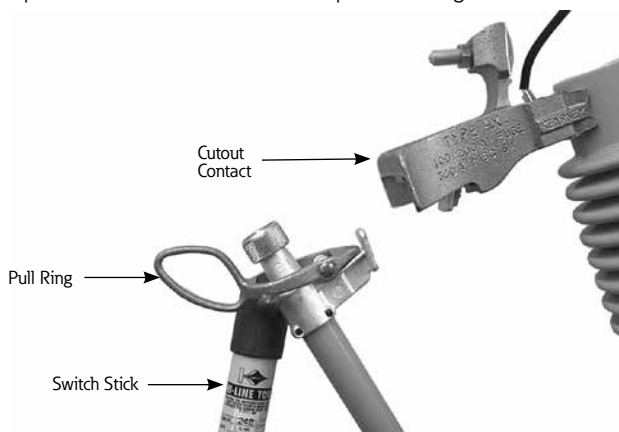

Figure 7. Closing the fuse holder.
- Then with head down and to one side of vent exhaust pattern, quickly and with a vigorous thrust on switchstick, push fuse holder to a closed position. Figure 7.